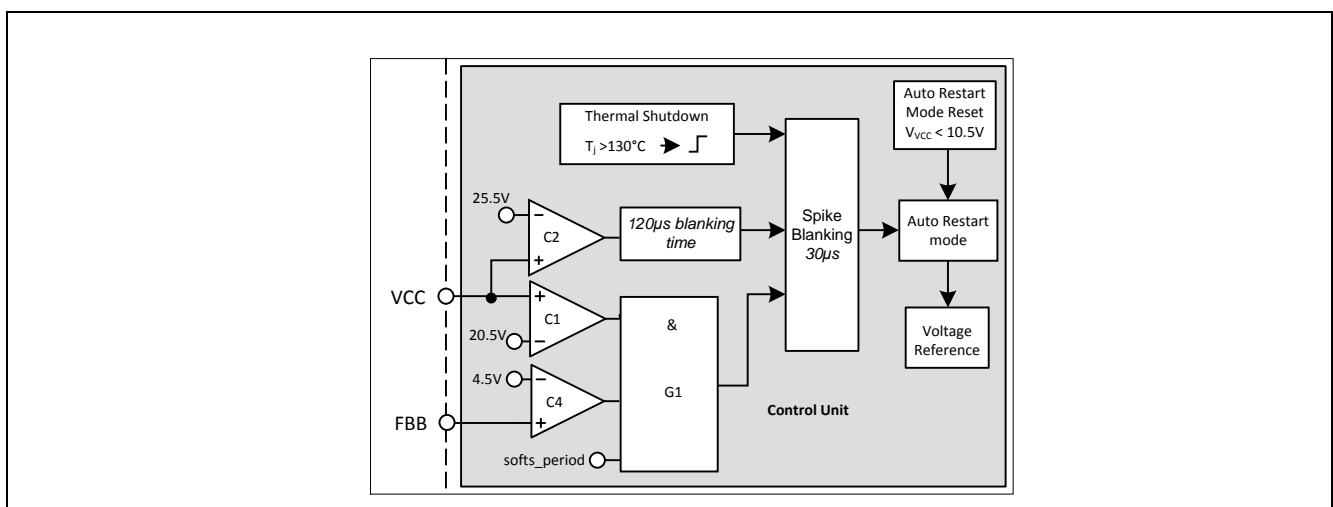

Figure 30: Vcc OVP and OTP
Vcc OVP (1) condition is when VVCC voltage is > 20.5V, VFBB voltage is > 4.5V and during soft start period, the IC enters into odd skip Auto Restart Mode. This condition likely happens during start up at open loop fault (Figure 30).
VCC OVP (2) condition is when VCC voltage is > 25.5V, the IC enters into odd skip Auto Restart Mode (Figure 30).
The over temperature protection OTP is sensed inside the controller IC. The Thermal Shutdown block keeps on monitoring the junction temperature of the controller. After detecting a junction temperature higher than 130°C, the IC will enter into the non switch Auto Restart mode. The ICE3AR2280VJZ has also implemented with a 50°C hysteresis. That means the IC can only be recovered when the controller junction temperature is dropped 50°C lower than the over temperature trigger point (Figure 30).